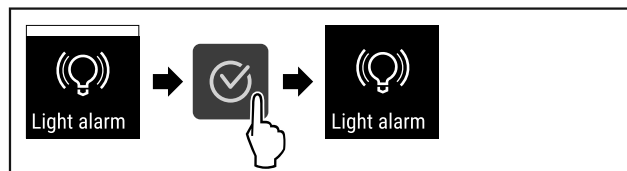

Fig. 99
- ▶ Complete steps (see Fig. 99) .